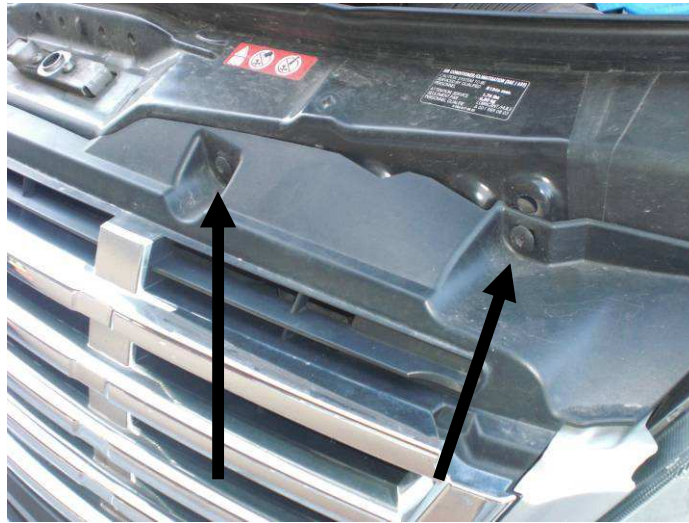

Figure 1: Stock grill hardware
2. Remove the four torx-head bolts holding the grill on (indicated by the arrows in figure 1) – do not discard these, you will need them to put the grill back on